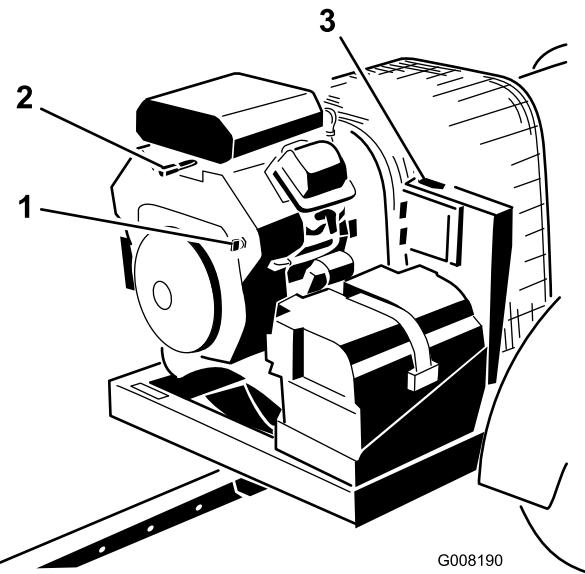

Figure 13
3. Rotate the engine ignition key to the “START” position and quickly release it to the “ON” position. This wakes up the receiver (Figure 13).
4. If leaving the machine, rotate the key to the OFF position and remove it from the engine (Figure 13).